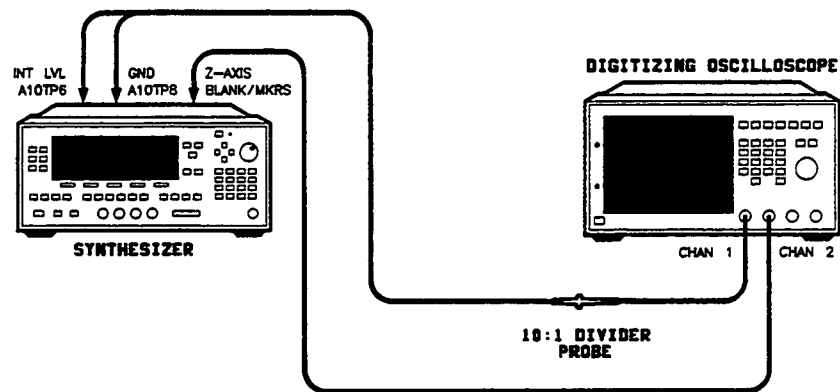

Figure 3-26. Modulator Offset and Gain Adjustment Setup
7. Connect the oscilloscope as shown in figure 3-26.